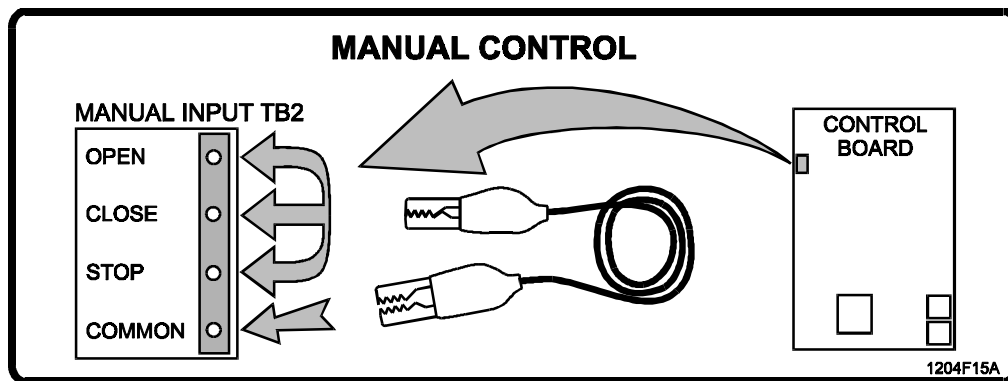

Figure 13. Manual Controls, Location and Use.
2. On Manual Input Terminal TB2, connect the STOP terminal to the COMMON terminal (see Figure 13).
Use the manual controls on Manual Input Terminal TB2 (OPEN, CLOSE, and STOP, as shown in Figure 13), to move the gate for limit cam adjustments.